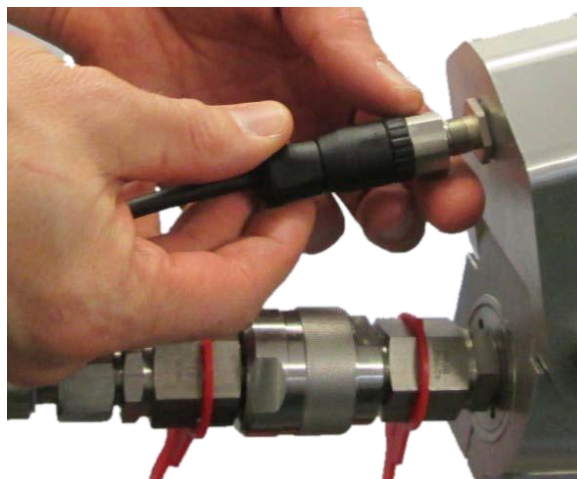

Fig. 5.5 Connection of the spiral line
- Plug the electrical spiral line into the cutter on the coupling side as described in *Fig. 5.5* and secure it by tightening the cap nut.